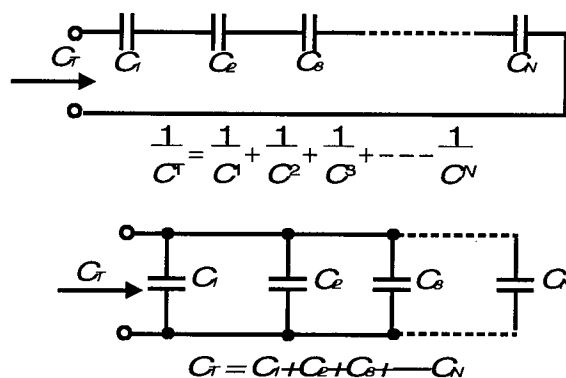

Figure 5-2, Series and Parallel Capacitors
Capacitors are components made of two parallel conducting plates separated by an insulating material. A capacitor stores a charge on its plates. The storage capacity C is measured in Farads (F). The farad is generally too large a unit for most tuner applications so the pico farad (pF) 10^{-12} F is used. Total capacitance is calculated in the opposite manner as inductance, Figure 5-2. Capacitors in *parallel* *increase* total capacitance and capacitors in *series* *decrease* total capacitance.